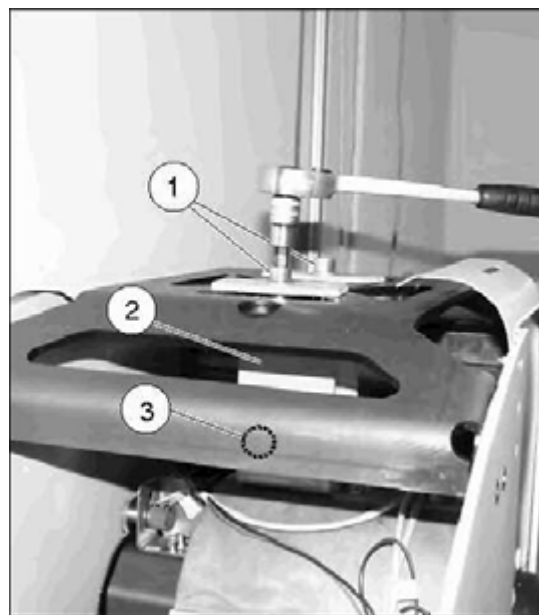

Fig. 5: Lifting base transport safety device
- To remove the transport safety device from the lifting base, unscrew the Allen screws and then remove the transport safety device (1,2,3/Fig. 5 / p. 13).
Screw (3/Fig. 5 / p. 13) is located on the bottom of the transport safety device.
- Screw the M12 x 30 screw (3/Fig. 5 / p. 13) back into threaded hole of the gear box.